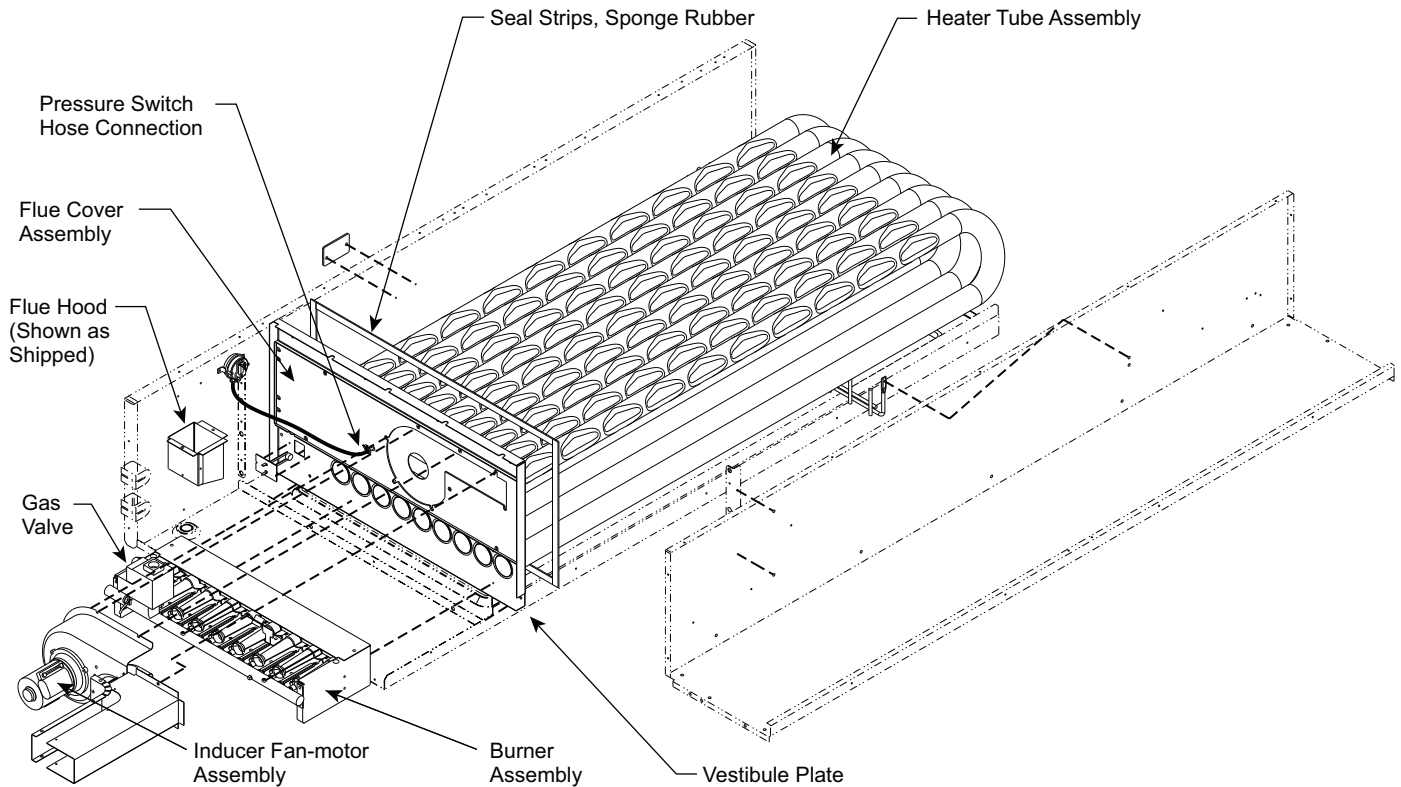

Fig. 41 — Heat Exchanger Assembly
1. Remove the combustion blower wheel and motor assembly according to directions in Combustion-Air Blower section. See Fig. 41.
2. Remove the seven screws attaching the induced-draft motor housing to the vestibule plate. (See Fig. 41.)
See Fig. 41, 43, 44, 45 and 46.
9. Remove the two screws attaching the burner rack to the vestibule plate (see Fig. 41).
10. Remove the pressure switch hose from the connection on the flue cover assembly (see Fig. 41).